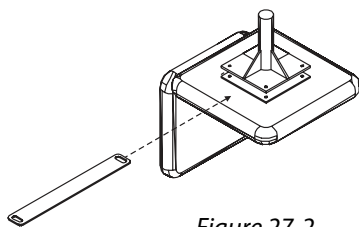

Figure 27-2
2. Loosen the screws that attach the plate to the seat. Allow enough room to slide the anchor plate between the seat and the seat plate. [Figure 27-2]